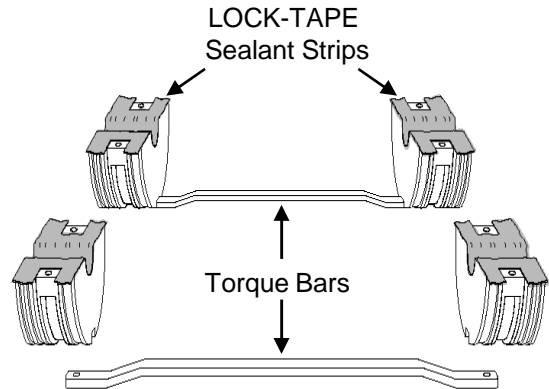

Figure 18
10.12 At this point, preparation work on the End Plate Sections is complete and ready for tube cable installation. **See Fig. 18.**